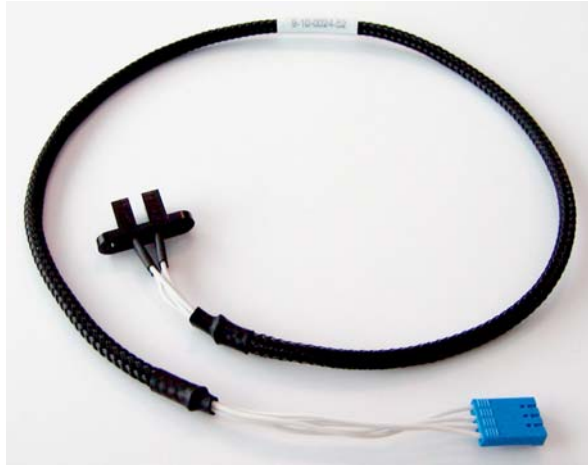

Fig. 35 – Diluter Home Sensor Assy [P/N: 9-10-0024-52]
8. Replace the Home Sensor with one new Home Sensor (Fig. 35).